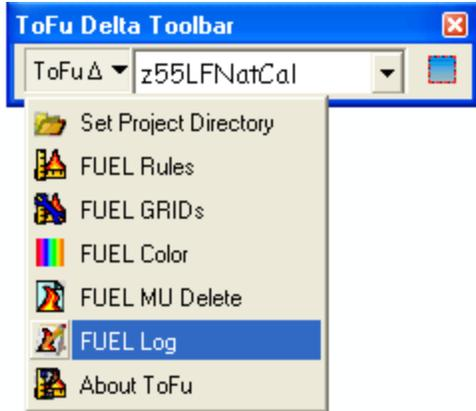

Figure 7-44. Use the drop-down menu to open the FUEL log file.
- Select **FUEL Log** on the ToFuΔ drop-down menu to view the text file (fig. 7-44).